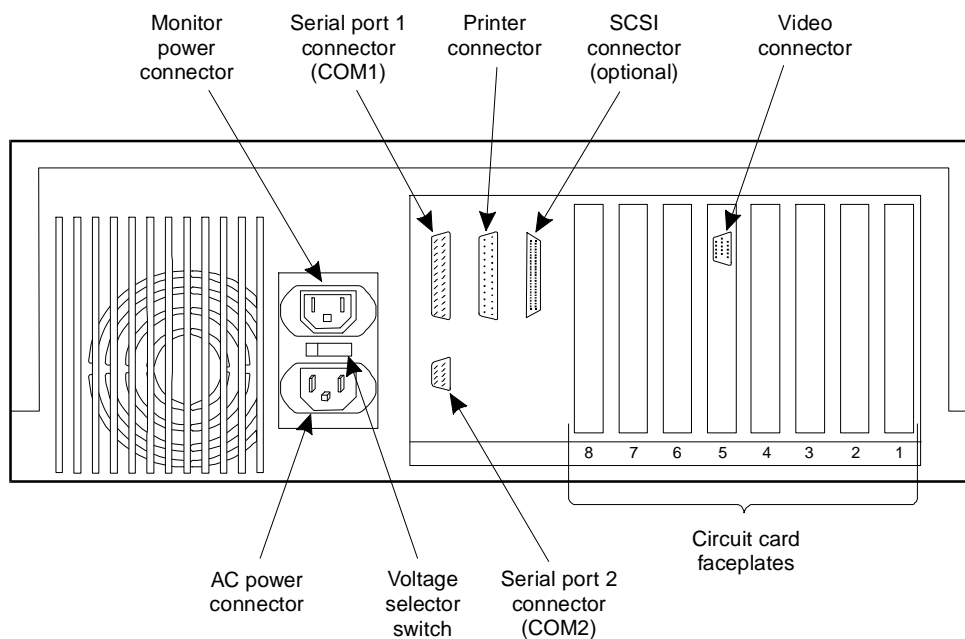

Figure 3-1. Connector Locations - Back View of the MAP/5
2. Verify that the voltage selector switch (see Figure 3-1) is set to 115V for the United States and Canada, and as appropriate for other locations.
5. Connect the 15-pin HDB-15 connector on the monitor signal cable to the matching connector on the video controller card in slot 5 on the rear of the MAP/5 (see Figure 3-1).
7. Plug the other end of the monitor power cord with the shielded pins into the monitor power outlet on the rear of the unit. See Figure 3-1.